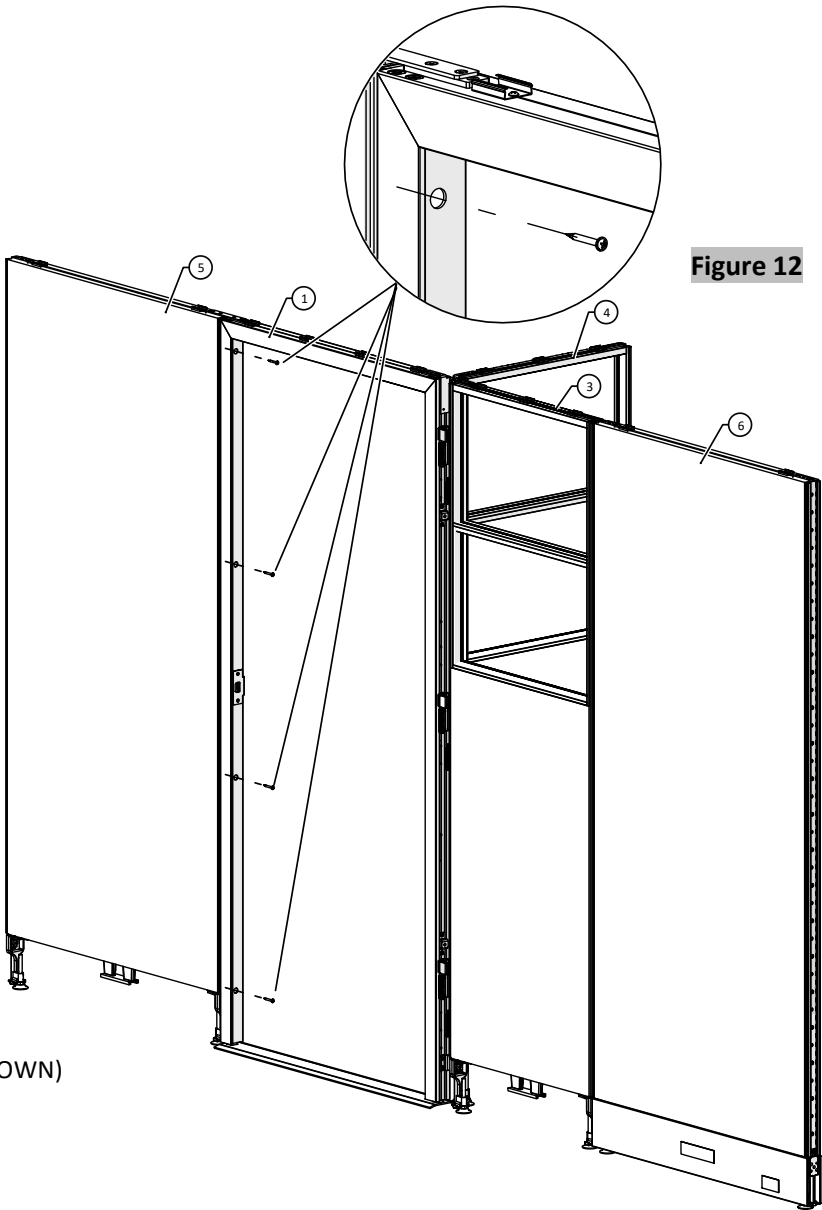

Figure 12
15. Securely fasten the panel door frame to the panel (Panel 3). For the glass or acrylic portion of the panel, use #10 X 7/8" L Self Tapping Truss Head Screws. For the panel without glass or an acrylic portion, use #8 X 1-1/2" Washer Head Screws, (Figure 12).